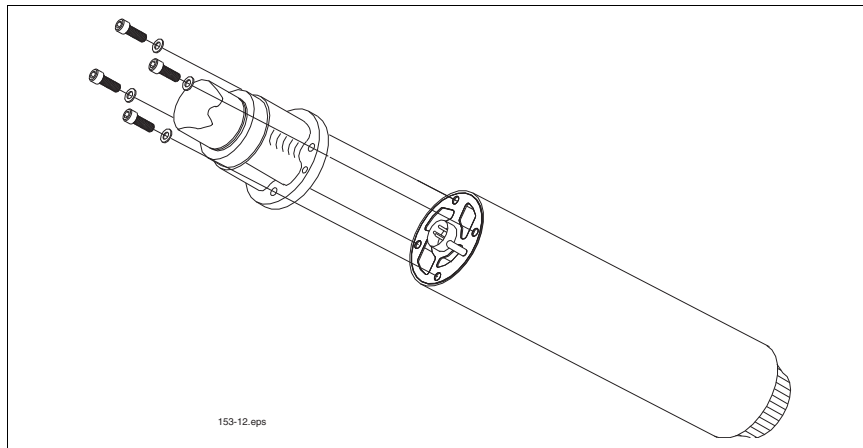

Figure 29. Removing the UMP
2. Remove the old UMP by removing the four bolts holding the discharge head as shown in Figure 29.